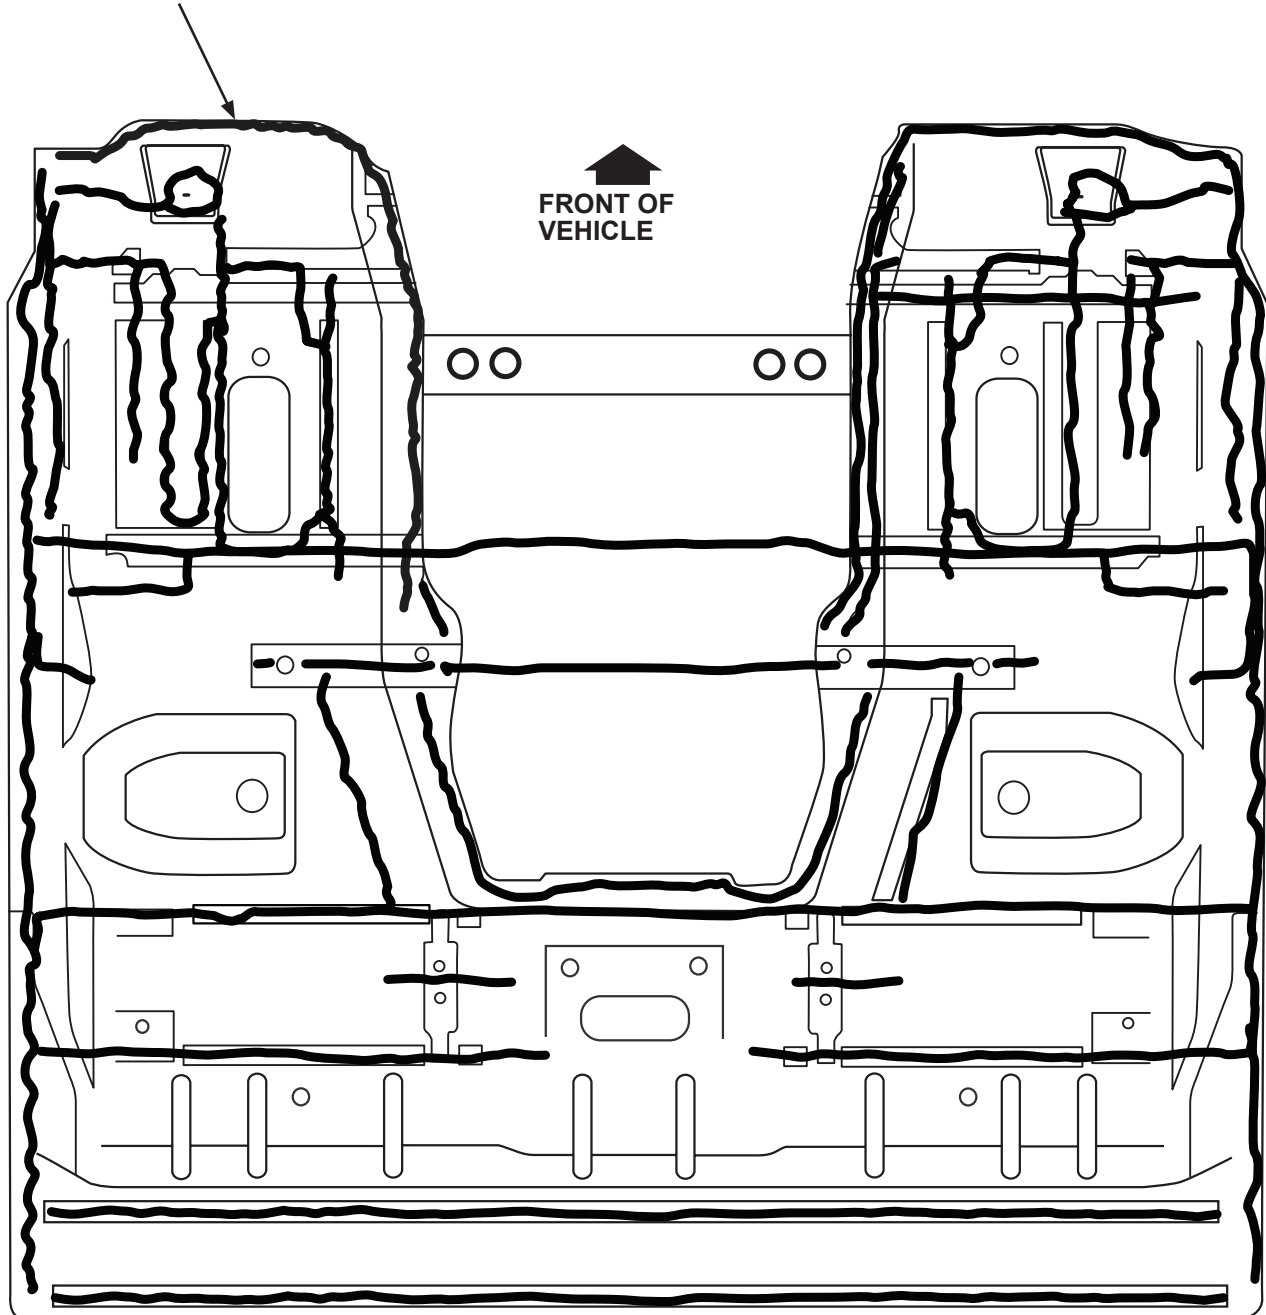

FIGURE 5
- (Refer to Figure 5) for location for adhesive material.